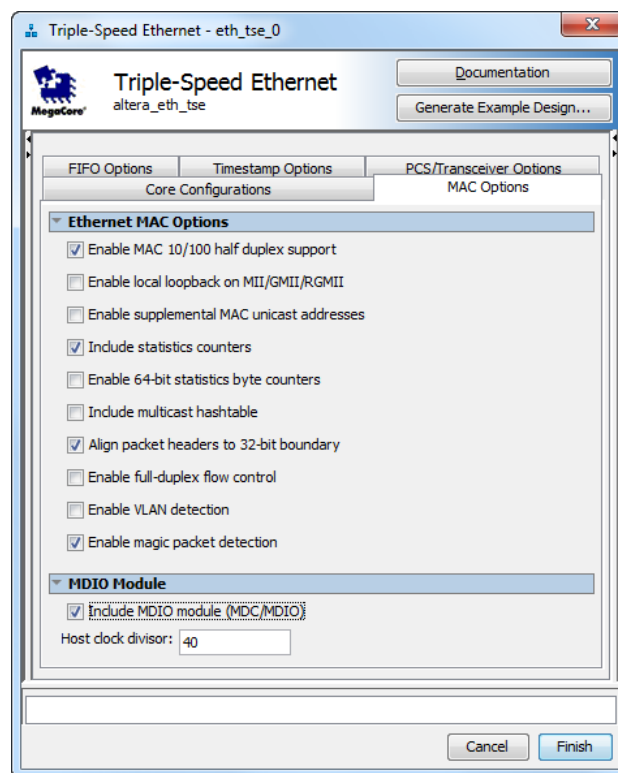

Figure 6. Settings for the Triple-Speed Ethernet IP Core.
- Select the following options: **Enable MAC 10/100 half duplex support**, **Include statistics counters**, **Align packet headers to 32-bit boundary**, and **Include MDIO module (MDC/MDIO)**, as shown in Figure 6.